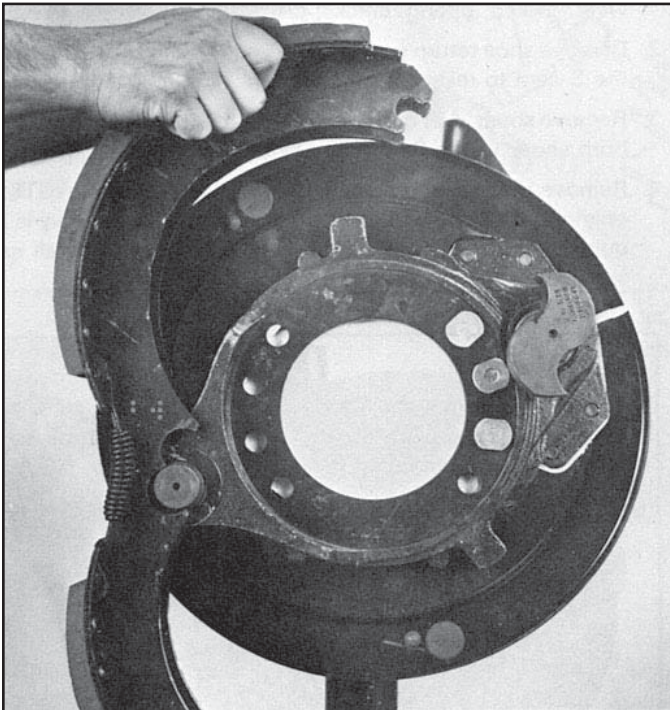

FIGURE 5 - REMOVING SHOES
3. Remove shoes. Lift one of the shoes off anchor pin and lower both shoes to the floor. (See Figure 5)